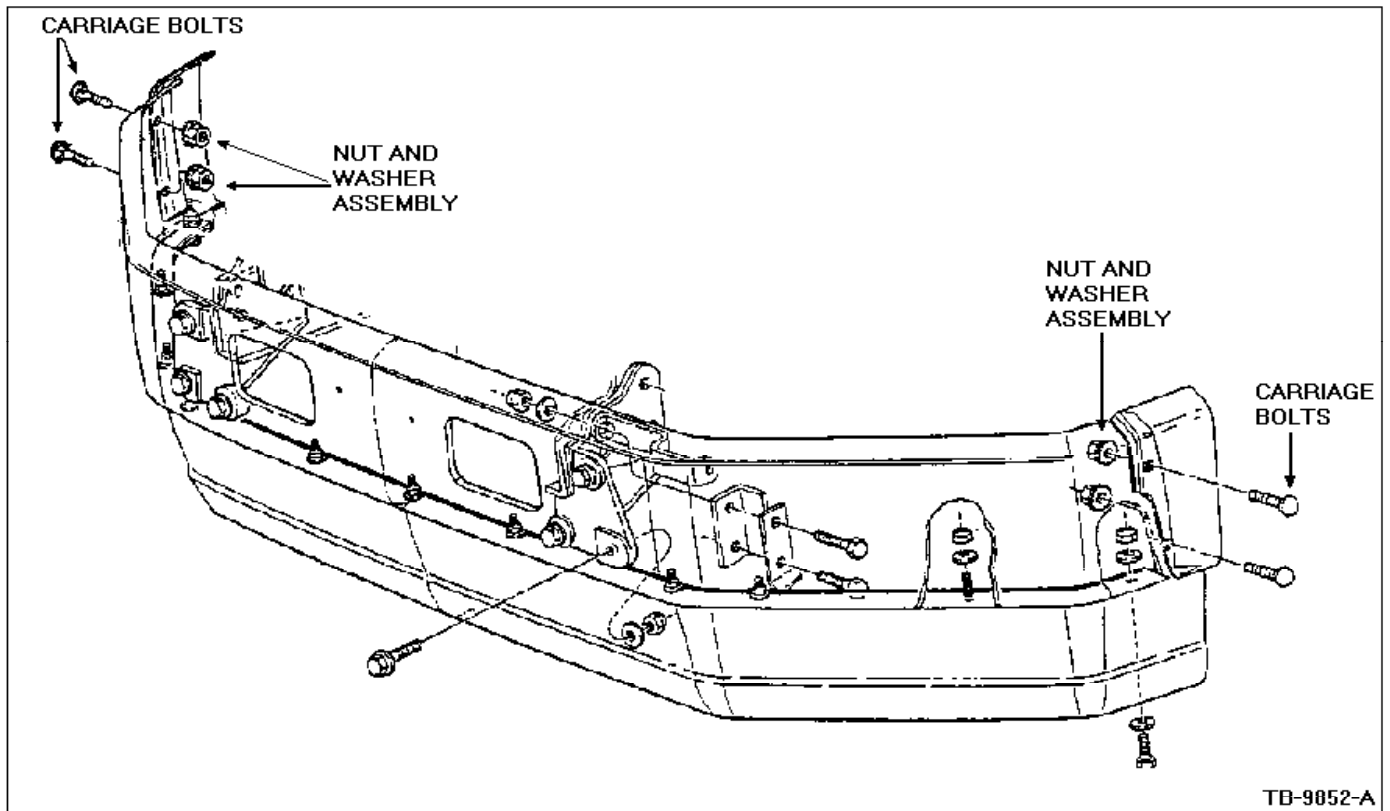

Figure 2 - Article 89-4-12
3. Center punch the air foil end at the two (2) locations shown in Figure 2.